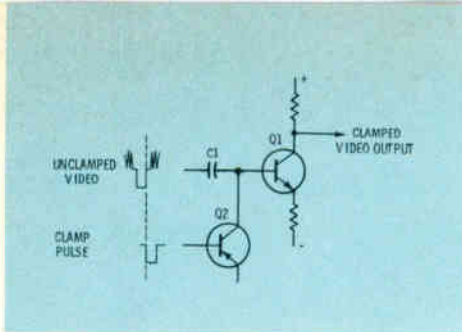
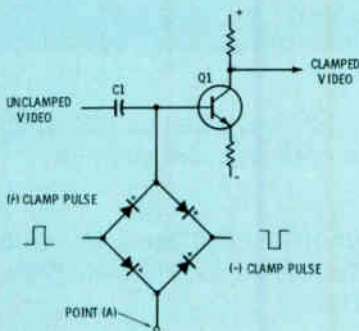

Figure 3
Figure 5
C1 retains this potential for the remainder of the line as in the transistor circuit of Fig. 3. One difference exists. The input resistance of V2 is very high and C1 may be much smaller in value than in the transistor circuit. With this high input resistance, the circuit is very sensitive to a gassy V2, which will develop a horizontal shading signal added to the video at V2 plate. (The cure, of course, is to replace V2.) Clamping occurs during the same time that burst is present on the back porch, and precautions must be taken to prevent distortion or phase shift of the burst.
The bridge clamp in Fig. 5 employs 4 diodes and requires push-pull clamp pulses. Q1 base is clamped to point (A) by the diodes for a period of time determined by the duration of the clamp pulse. The diodes conduct heavily during this time and all four legs of the bridge are in effect, tied together. Between pulses the bridge presents an open circuit between Q1 base and point (A). C1 therefore functions the same as in the previous circuits discussed, being charged during pulse time to the potential existing at point (A), and holding this charge until the next pulse occurs. The voltage at point (A) then becomes the bias for the clamped stage Q1. The versatile bridge clamp is found in vacuum tube and transistor equipment.
The transistor clamp (Fig. 3), and the bridge clamp (Fig. 5) are well suited for this purpose.